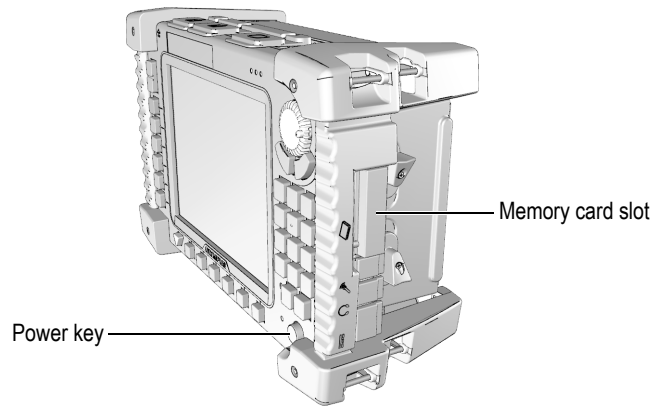

Figure 1-17 The OmniScan MX unit
5. On the OmniScan unit (see Figure 1-17 on page 38):